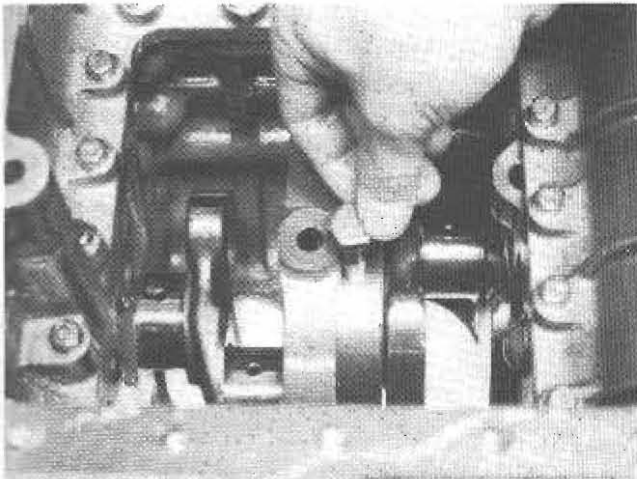

Fig. 4-4 Aligning Set Bolt Holes
- Place the engine on its side on a wooden base. Insert crankshaft. Align the intermediate main bearing set bolt holes (Fig. 4-4). Install and tighten intermediate bearing set bolt(s) to 22 to 25 ft/lb (30 to 34 N·m).